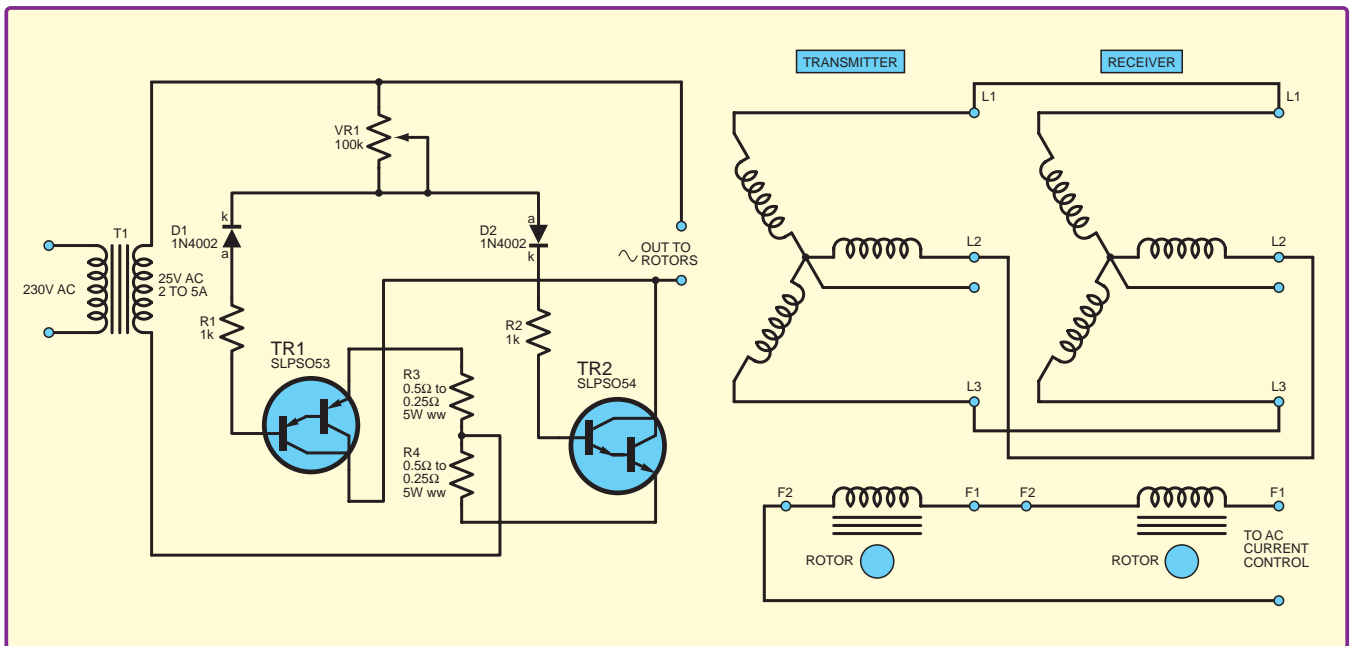

Fig.2. Remote motion control using alternators as servos. Note resistors R3 and R4 are wirewound types
*Fig.2. A simple circuit that provides dual balanced supplies from the two handshake outputs of an RS232C port. The DTR and RTS lines must be set to true and false respectively*
Since it is likely that the add-on will often be connected to the computer at switch-on, and the correct starting levels for the two output lines are unlikely to be correct by default, it is advisable to include protection diodes (see Fig.2) to ensure that the circuit cannot be fed with supplies of the wrong polarity. The voltage drop of about 0.6V or so through each diode is unwelcome, but is unlikely to be of any great significance in practice. The voltage drop could be minimised by using Schottky diodes instead of an ordinary silicon type. Each output voltage would then be reduced by about 0.2V.
Normally a car's alternator is used to generate AC, which is rectified to DC, and then used to power various items in the car and to charge the battery. But, with a little ingenuity, you can use it as half of a servo pair to produce remote motion in a distant place. The circuit details are shown in Fig.2.